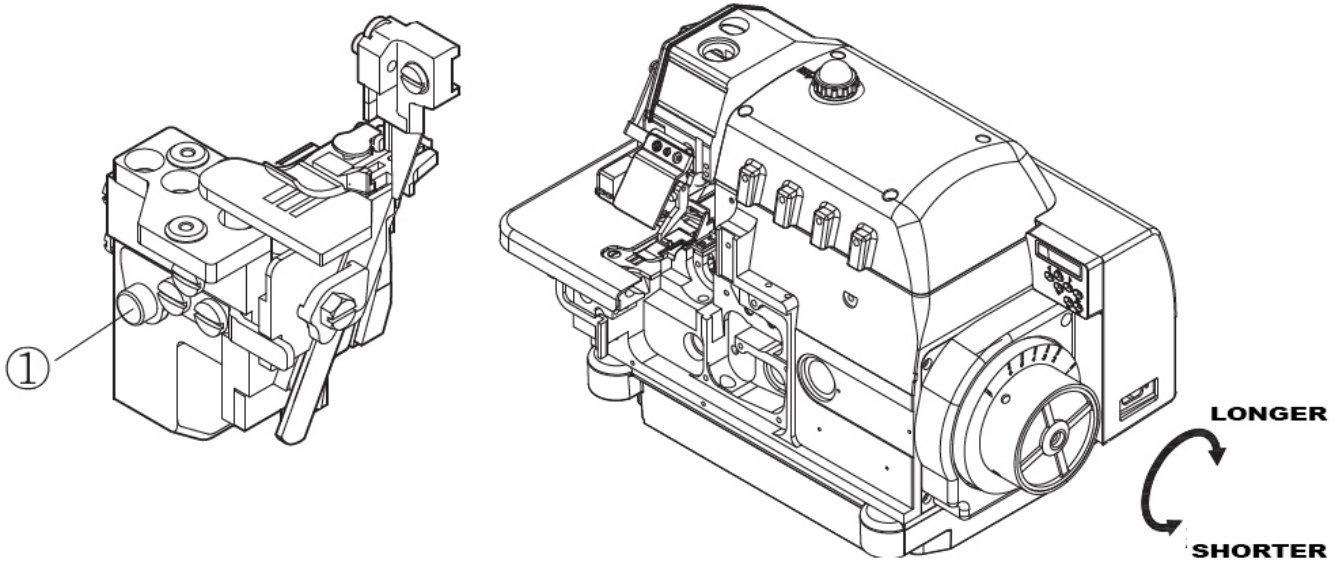

Figure 14
The stitch length is adjusted according to the fabrics, the differential ratio or other factors. Keep pressing the button (1) and turn the pulley till the button is locked. Then, release the button after reaching the desired stitch length. (Fig.14)